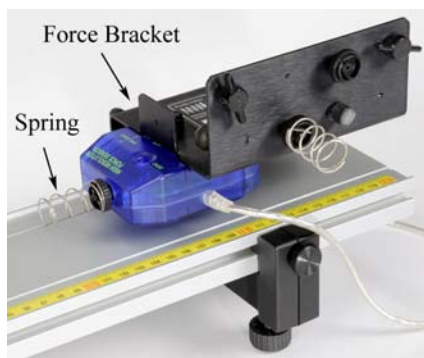

Figure 2: Force Sensor
3. Attach the Force Sensor to the bracket as shown in Figure 2. Use the lighter duty spring bumper.